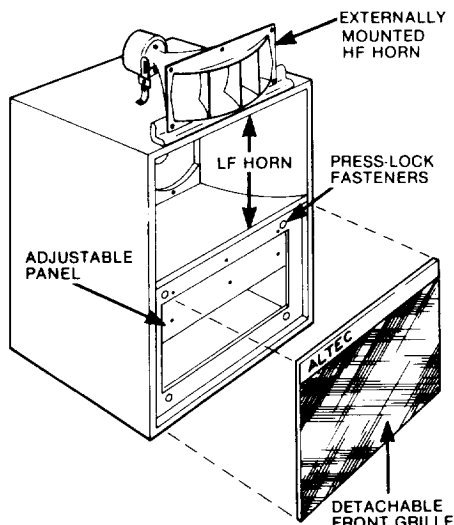

Figure 6. Externally Mounted Horn System
- Attach assembled HF horn to mounting bracket with three 1/4"-20 x 1 1/4" machine screws, lockwashers and 1/4"-20 hex nuts. Defer tightening screws and nuts until horn position is set. Figure 6 shows horn installed.
ener; pull grille free. Figure 6 illustrates grille removed.
16. Remove five 1/4"-20 x 1/4" machine screws from adjustable panel; see Figure 6. Remove panel and store for later potential use.